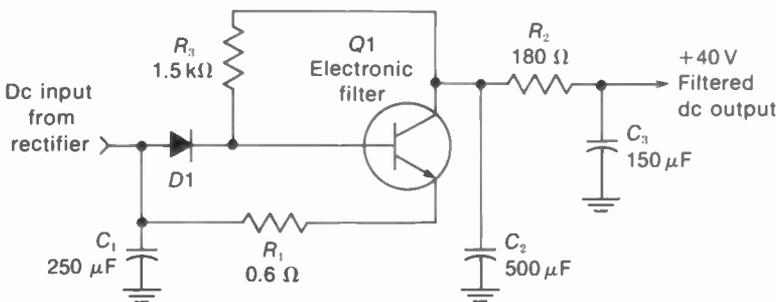

FIGURE 12-25 CIRCUIT FOR ACTIVE FILTER. SEE TEXT FOR EXPLANATION.
**Active filter.** A transistor can be used as an electronic filter, as shown in Fig. 12-25. Note